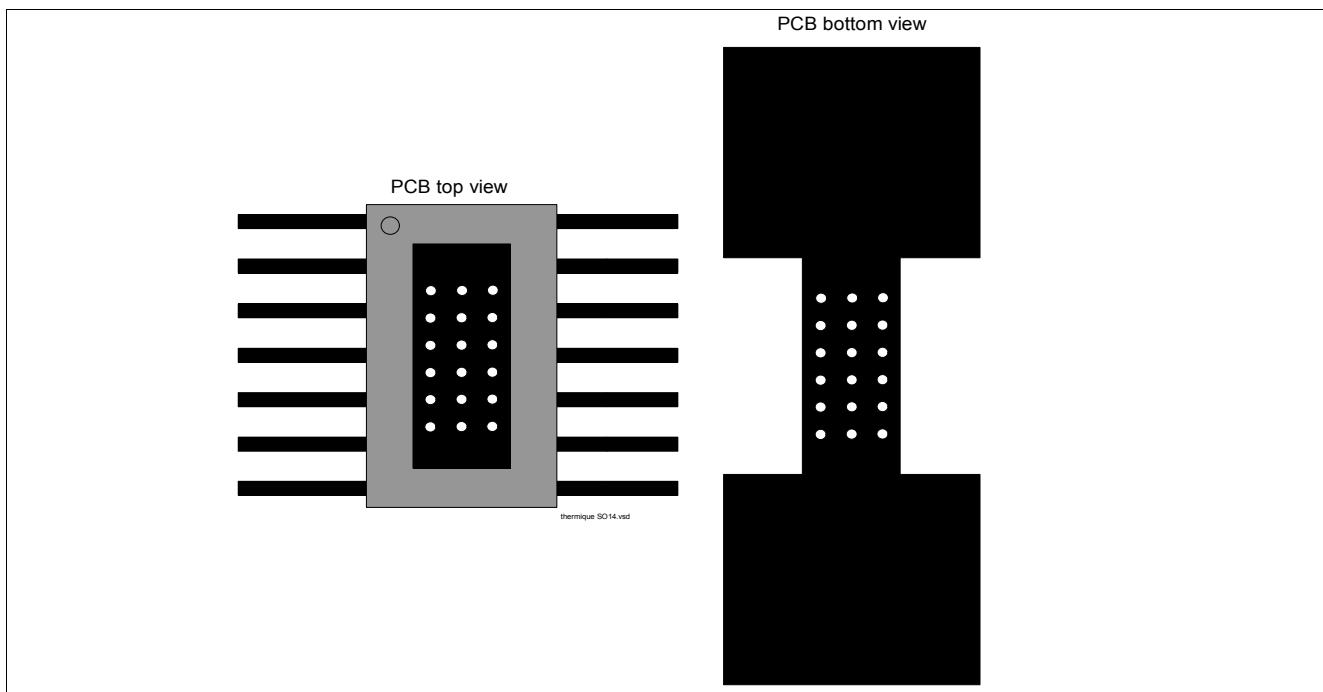

Figure 5 PC Board Top and Bottom View for Thermal Simulation with 600 mm² Cooling Area
2) Specified R_{thja} value is according to JEDEC JESD51-2,-5,-7 at natural convection on FR4 2s2p board; The product (chip + package) was simulated on a 76.4 x 114.3 x 1.5 mm board with 2 inner copper layers (2 x 70 μm Cu, 2 x 35 μm Cu). Where applicable, a thermal via array under the exposed pad contacts the first inner copper layer. Please refer to Figure 4 and Figure 5.